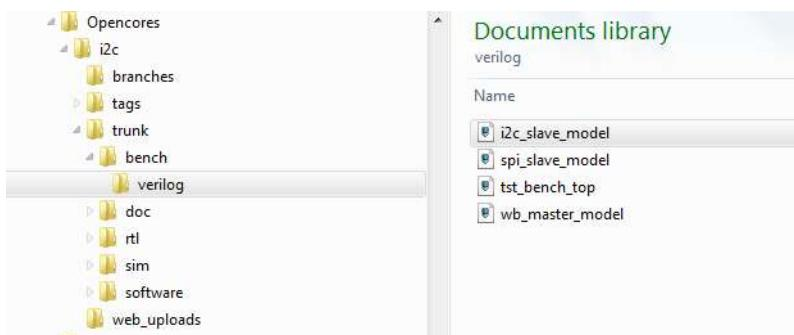

Figure 4-9 Test bench files
2. Navigate to the *i2c/trunk/bench/verilog* directory of your I2C core and select all the files except the *spi_slave_model* file (I'm not sure why this file is here; it is not used and it also has RTL errors), then click Open (Figure 4-9).